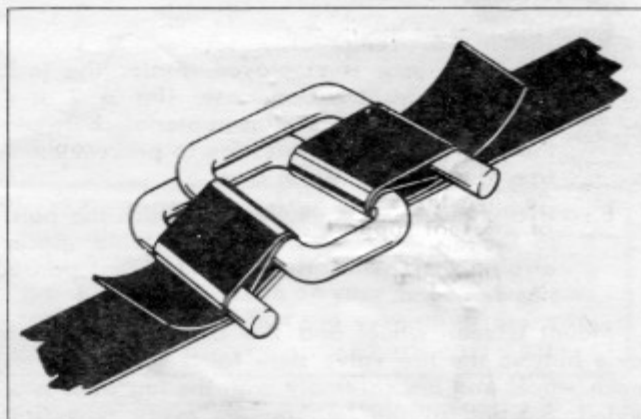

FIG. 3. Routing Banding Material through Clip
6. Secure the banding material with one of the special clips, routing the banding through the clip as shown in Fig. 3. A pair of pliers may be used to pull the banding tight. Make sure the banding is positioned in the notch provided for it at each end of the battery tray. Cut off excess material, leaving free ends of about 2 in. (5 cm) in length.